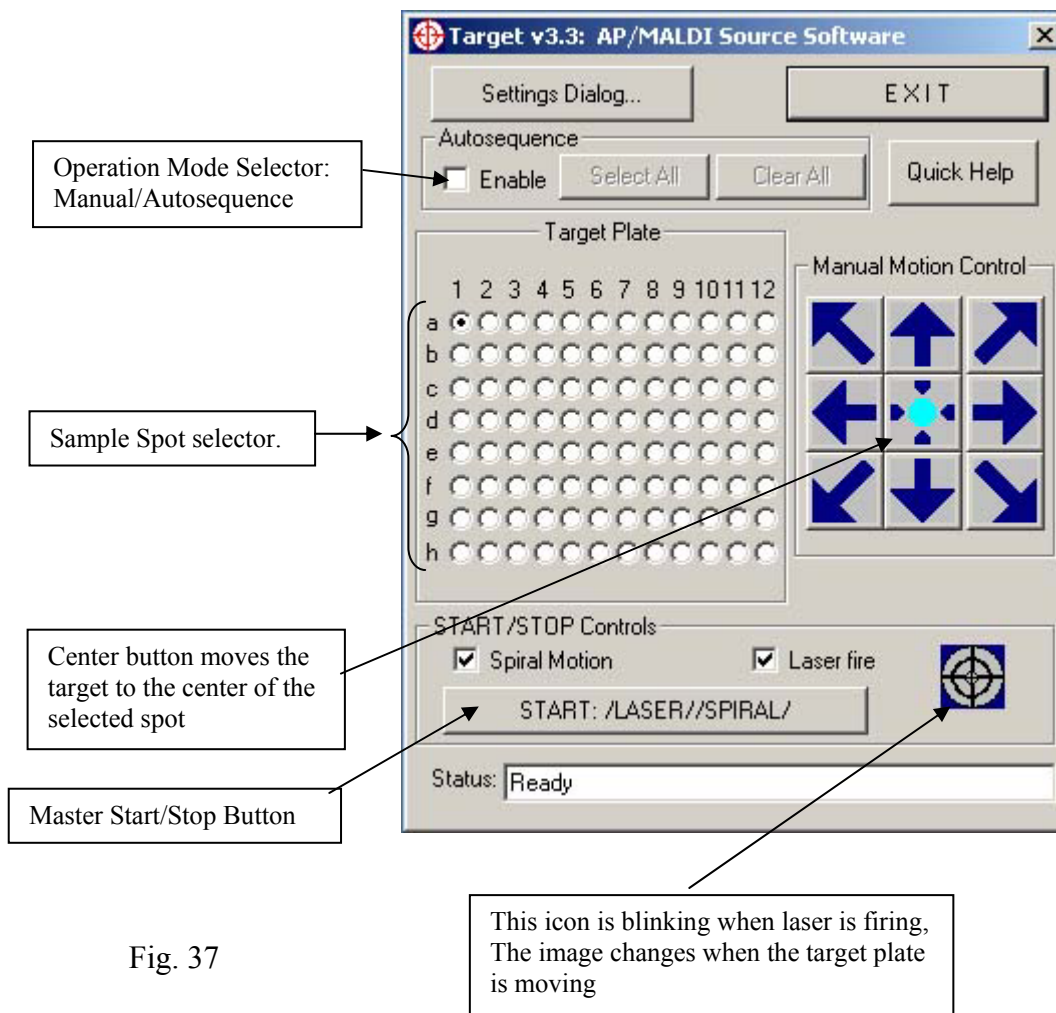

Fig. 37
After the installation process is completed, start the Target program in your conventional way. The Target window (Fig.37 above) appears.
There are two modes of operation for the Target software: Manual (Enable/Autosequence Check Box is clear) and Autosequence. Switch between the modes by checking/unchecking the "Enable" Box. In manual mode, only one Radio Button of the group "Target plate" can be selected. Click any spot in the Target Plate field and the target plate will move to the selected position. You can shift the position of the spot by clicking the arrow buttons placed around the Center button (See Fig. 37). Click the Center button to restore the central spot position.
4. Click on the desired sample using the sample spot selector (map) provided in the *TARGET* software window (see Fig. 37). The target plate will move to this sample position and stop near its center (this is observable on the LCD monitor screen).
1. **Check** the “Autosequence-Enable” check box in the main *TARGET* software window (see Fig. 37) and **check** the “Internal Timing” radio button in the *TARGET*'s “Settings Dialog” window (see Fig. 39).
2. **Check** the “Autosequence-Enable” check box in the main *TARGET* software window (see Fig. 37) and **check** the “External Timing” check box in the *TARGET*'s “Settings Dialog” window (see Fig. 39).